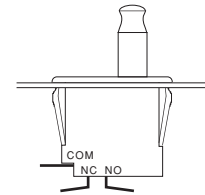

Figure 3. Tamper Switch Wiring
9. Complete the Tamper Switch wiring using the Push-on Crimp Terminals provided. Connect to the Common (COM) and Normally Open (NO) for closed circuit loop and Common (COM) and Normally Closed (NC) for open circuit loop as shown in Figure 3 below.